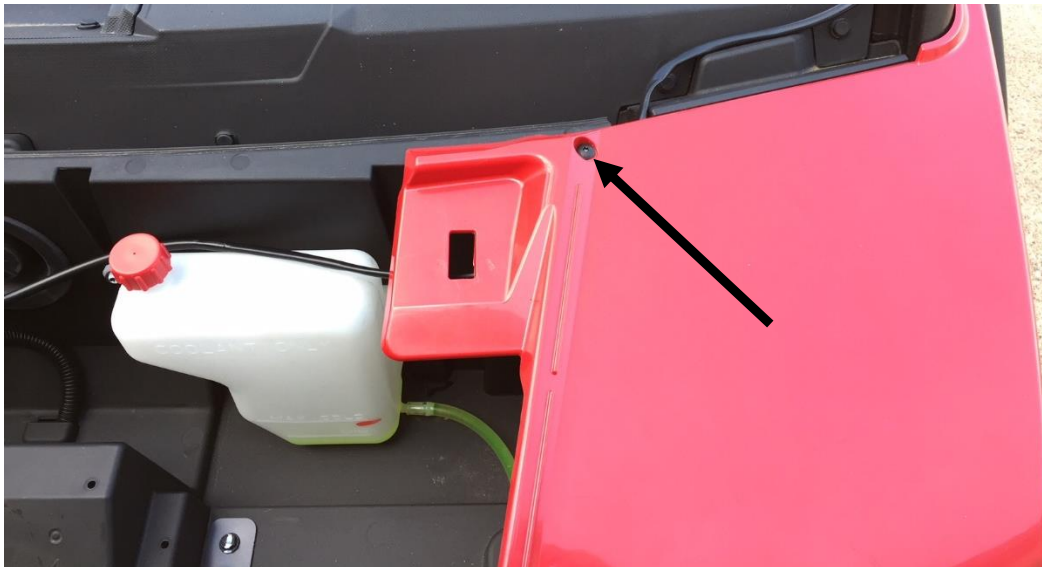

Figure 15: Remove the Torx screw to run the chassis harness under the panel.
11. Remove the right Torx screw to route the wiring under the plastic panel. See Figure 15.